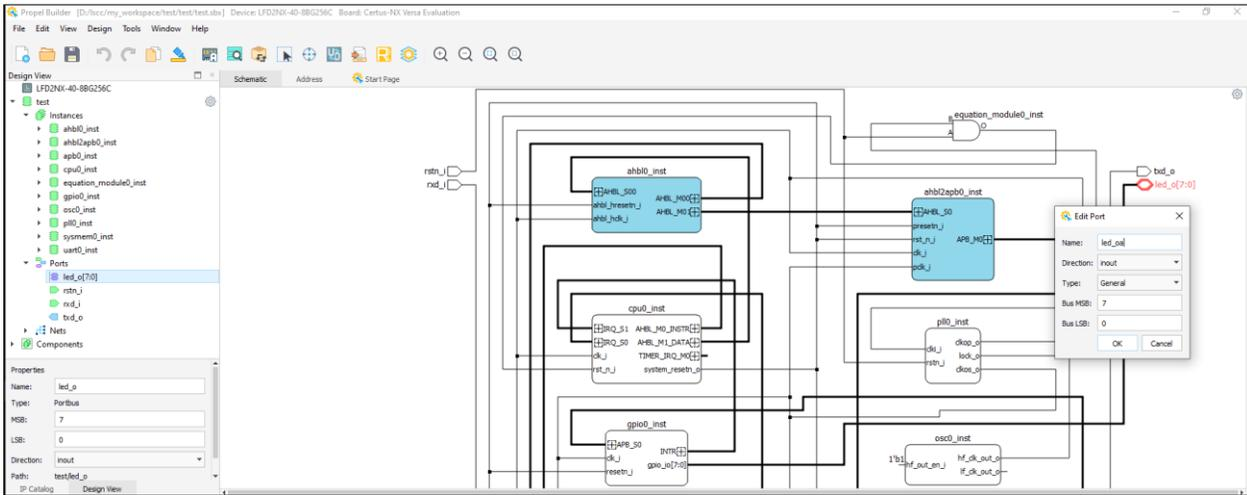

Figure 2.92. Port Edit Dialog
h. (Optional) Double click on the Port/ Portbus in schematic view, the port edit dialog opens (Figure 2.92).